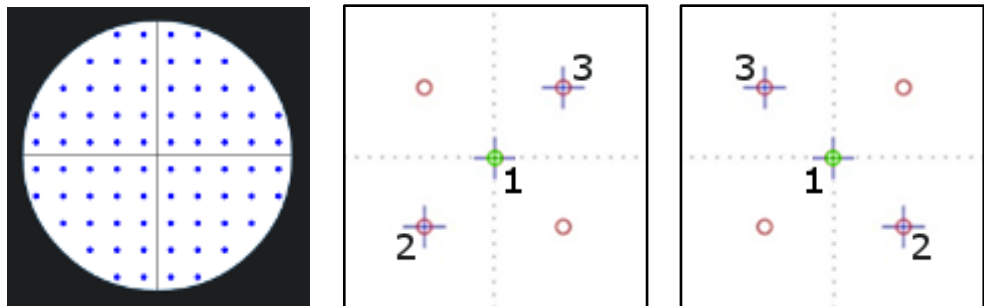

Fig. 23 – “30-2” grid test locations (left)
- Steps 1 to 6 take place as described above, with the IR image and foveal test being performed with a fixation target in the central position with respect to the field (see Fig. 23, position 1);
- Step 7 is split in two parts: at the end of the foveal test the fixation target changes from the central position to a position at about 4° from the center in lower-nasal direction (see Fig. 23, position 2). Allow the patient to locate the fixation target and to start fixating it before clicking the arrow to proceed;
- Then, the fixation target changes to a position at about 4° from the center in upper-temporal direction (see Fig. 23, position 3). Allow the patient to locate the fixation target and to start fixating it before clicking the arrow to proceed; the remaining 38 locations are then tested;